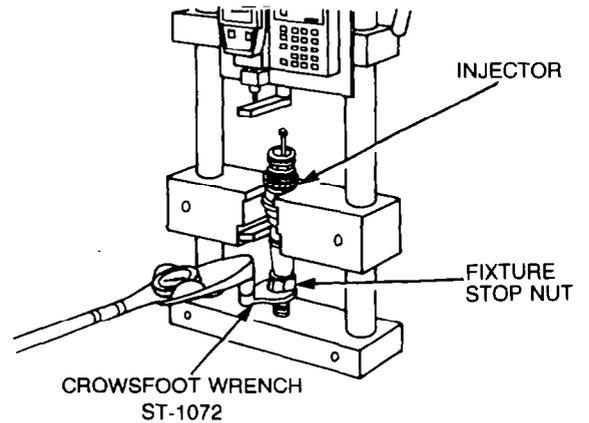

Figure 133 — Injector — Removal
- w. Move the deadweights switch to the raise position, then using a suitable wrench and crowsfoot wrench ST-1072 loosen the fixture stop nut (see Fig. 133) and remove the injector from the fixture.